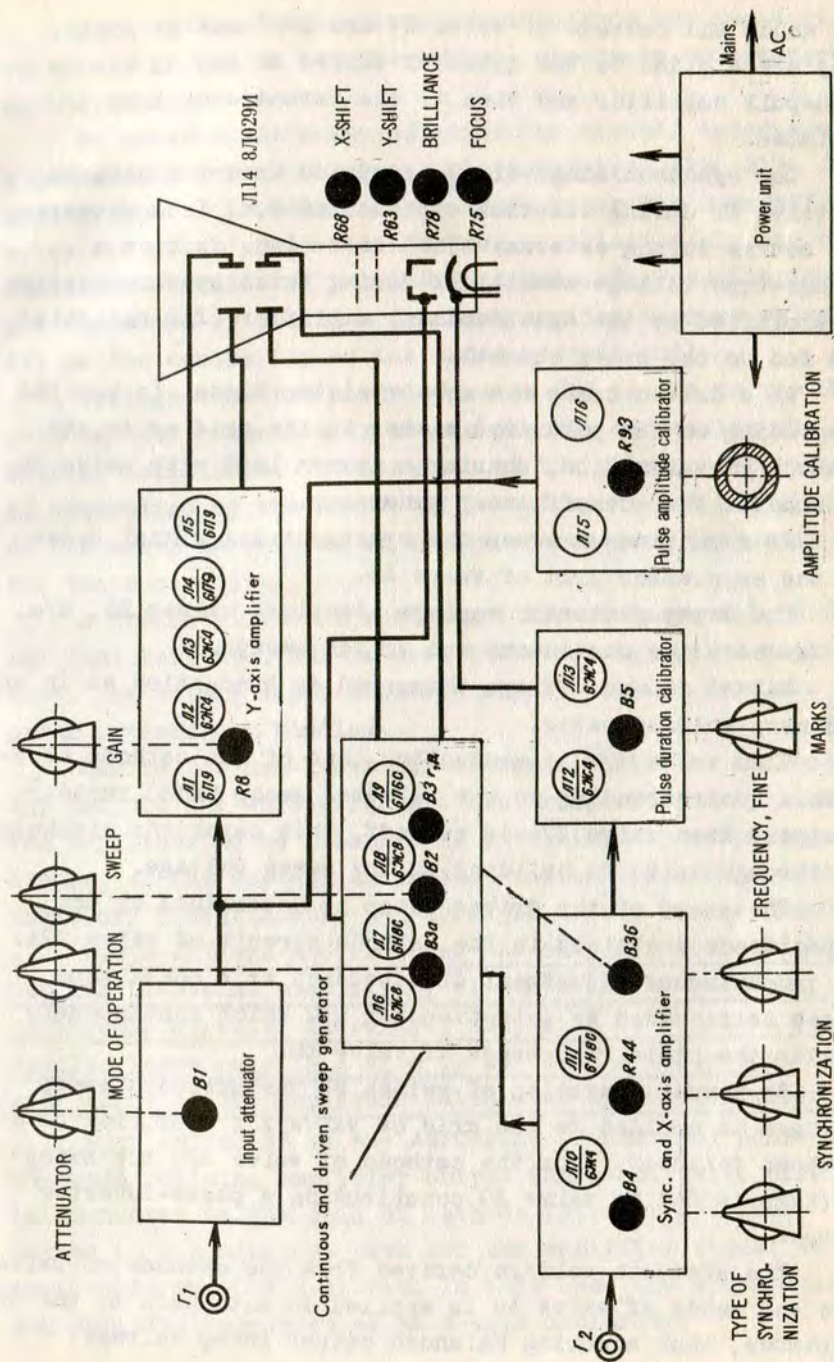

FIG. 1. CI-5 UNIVERSAL OSCILLOSCOPE. FUNCTIONAL BLOCK DIAGRAM
5.1. The instrument consists of the following components (see the functional block diagram in Fig. 1):